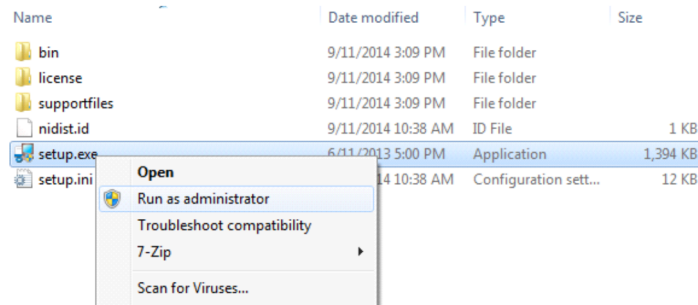

Figure 1. Select Run Administrator When Executing the Installer
(A) To install the software run the setup.application from the link below (<http://www.ti.com/tool/tps22993evm-033>) by right clicking and saying “Run as Administrator, see Figure 1.